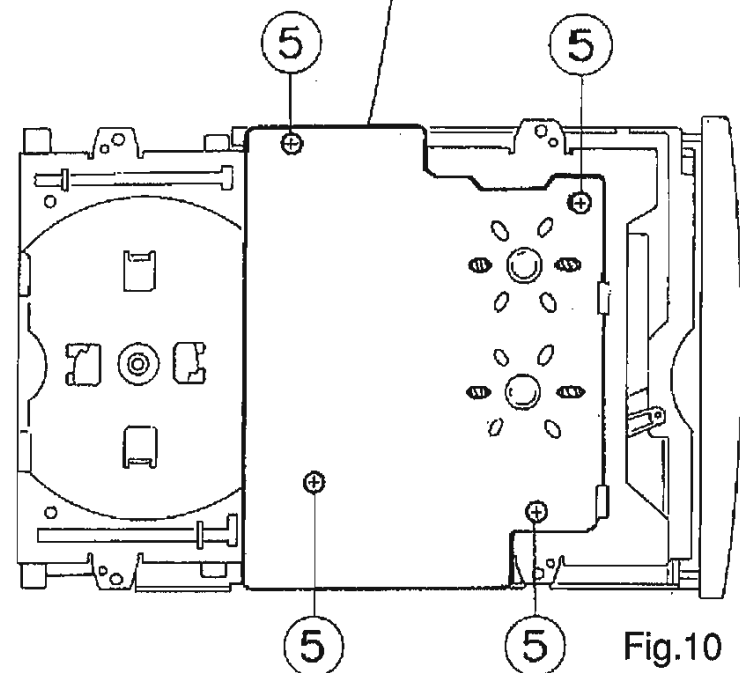

Fig.10
5. After turning over the CD traverse mechanism, remove the four screws 5 retaining the CD traverse mechanism control & servo P.C. board (See Fig. 10).